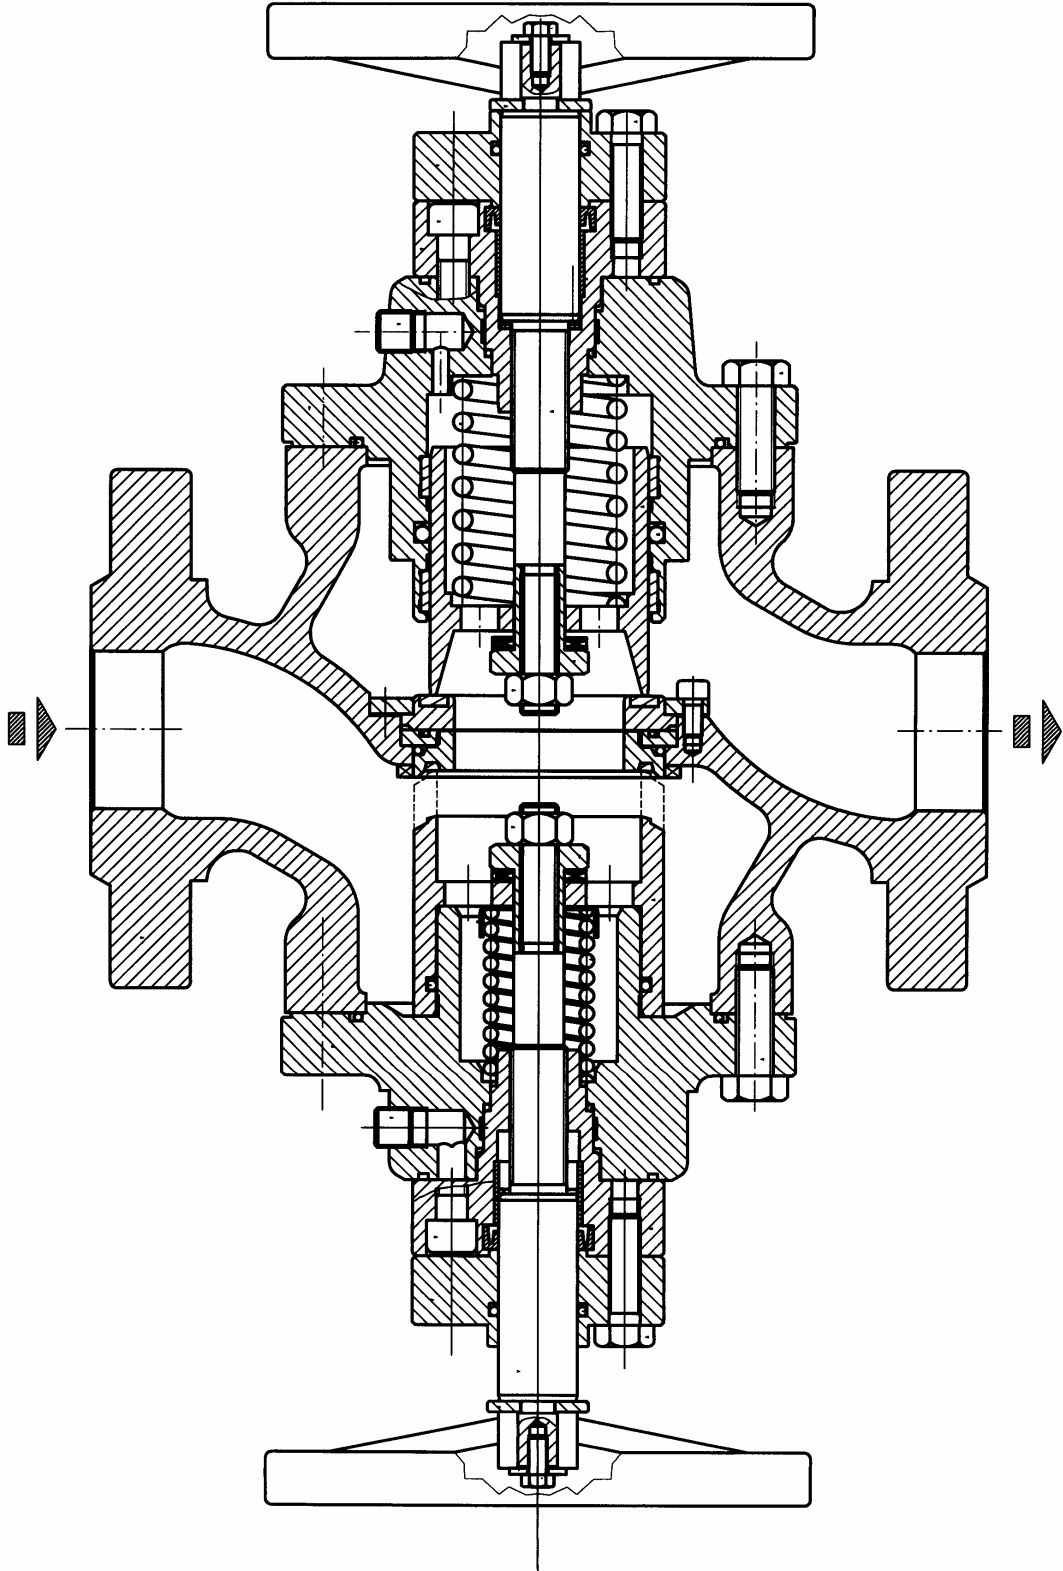

Figure 3
- second shutter in series with the main shutter (see figure 3).